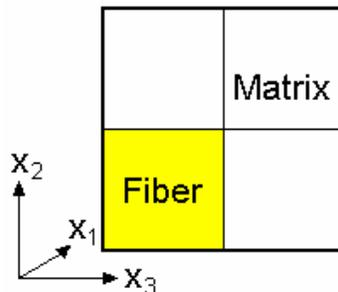

Figure 1.1 MAC/GMC 4.0  $2 \times 2$  doubly periodic repeating unit cell.
This example problem determines the effective thermal and mechanical properties of a continuous graphite fiber/epoxy matrix composite material. The simplest repeating unit cell (RUC) available within MAC/GMC 4.0 that can represent the architecture of this composite, namely a  $2 \times 2$  RUC (see Figure 1.1), is employed. As Figure 1.1 shows, the doubly periodic RUC consists of four subcells in the  $x_2$ - $x_3$  plane, one of which represents the fiber and three of which represent the matrix. The term “doubly periodic” indicates that the RUC repeats infinitely in the two in-plane ( $x_2$ - $x_3$ ) directions and is infinite in the out-of-plane (continuously reinforced,  $x_1$ ) direction. The RUC thus represents a continuum (as opposed to a structure with boundaries). Based on the properties and arrangement of the fiber and matrix constituents, MAC/GMC 4.0 uses the doubly periodic generalized method of cells (GMC) theory to homogenize the composite material and determine the effective (anisotropic) properties of this continuously reinforced homogenized material. The constituent material properties in this problem are temperature-independent and are read from the MAC/GMC input file.
and axial and transverse CTE, respectively). The temperature-independent thermal conductivities are specified on a separate line as  $K=\kappa_A, \kappa_T$  (axial and transverse thermal conductivity, respectively). Note that, while the  $K=...$  specification is required when the **\*CONDUCTIVITY** keyword is present, in the absence of **\*CONDUCTIVITY**,  $K=...$  should be omitted. In addition, the employed elastic constitutive model (CMOD=6) allows for transversely isotropic material properties. That is, it allows for specification of different properties in the axial and transverse direction (as specified for the graphite fiber, for example). Care should be exercised, however, as CMOD=6 requires that the axial direction be associated with the  $x_1$ -axis (see Figure 1.1). For transversely isotropic elastic constituent behavior with axes other than the  $x_1$ -axis, constitutive model 9 (CMOD=9) can be employed (see Keywords Manual Section 2). The isotropic simplification of the employed elastic model (CMOD=6) is obtained by setting  $E_A = E_T = E$ ,  $\nu_A = \nu_T = \nu$ ,  $G_A = E/2(1+\nu) = G$ ,  $\alpha_A = \alpha_T = \alpha$ , and  $\kappa_A = \kappa_T$ .
By including **\*RUC** within the input file, repeating unit cell analysis, which represents a continuum has been selected. In this example, a repeating unit cell architecture is selected from the MAC/GMC internal library by specifying ARCHID=1. This RUC, which is the simplest representation of a continuous fiber composite, is shown in Figure 1.1. The additional information required for this RUC architecture is the fiber volume fraction and which of the two constituent materials occupy the subcells associated with the fiber (F=) and the matrix (M=). Based on the specified fiber volume fraction, MAC/GMC 4.0 determines the dimensions of each subcell. Then, given the information on which materials occupy which subcells, the code has obtained all of the data (the constituent properties and their arrangement) required to homogenize the composite and determine its effective properties via the generalized method of cells theory.
The results include the effective thermal conductivities of the 0.65 fiber volume fraction graphite/epoxy composite, the effective stiffness matrix (CG), the inverse of the effective compliance matrix (CI), the effective engineering moduli (i.e., effective elastic properties), and the effective coefficients of thermal expansion. Recall from Figure 1.1 that the axial fiber direction is associated with the  $x_1$ -axis, while the  $x_2$  and  $x_3$  directions are transverse to the continuous fiber. The high thermal conductivity, high stiffness, and low CTE associated with the axial direction of the fiber constituent are evident in the effective properties of the composite associated with the  $x_1$  direction. Transverse to the fiber direction, on the other hand, the thermal conductivity and stiffness are low while the CTE is high.